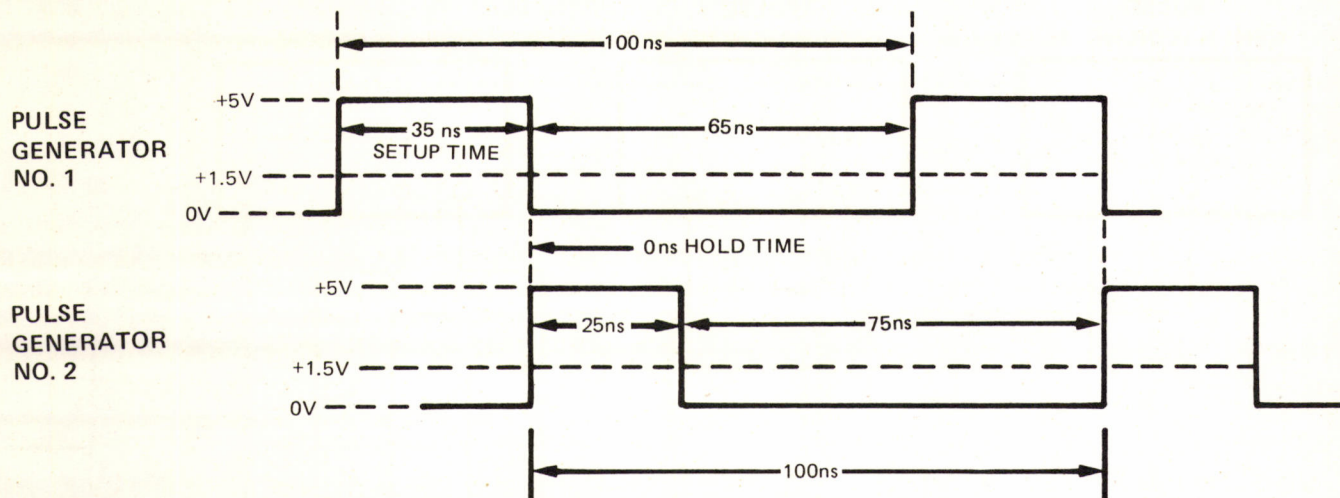

Figure 4-2. Clock, Data, and Clock Qualifier Probe Inputs Test Waveforms
- b. Adjust pulse generator outputs as shown in figure 4-2.
e. Vary pulse period of pulse generator No. 1 (figure 4-2). Verify that 1111 is displayed for bits tested when pulse periods are ≥ 100 ns (repetition rate ≤ 10 MHz). This verifies repetition rate specification.
f. Vary clock pulse width and delay (pulse generator No. 2, figure 4-2). Verify that 1111 is displayed for bits tested with 35 ns setup time, 0 hold time, and 25 ns wide clock pulse. A display of 1111 verifies setup and hold time specifications for data bits tested, and clock width specification.
l. Adjust pulse generator outputs for waveforms as shown in figure 4-2.
- n. Vary pulse generator No. 2 pulse position (figure 4-2) until no qualifier condition is observed (1602A displays message E41). Verify that qualifier conditions are valid (data displayed by 1602A) for 35 ns setup time and 0 ns hold time.